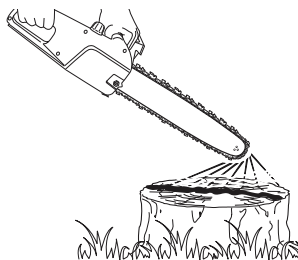

Fig. 18
- > Make sure the guide bar (4) and the saw chain (3) are in place when you check the oil delivery.
- > Start the engine; keep it running at medium power and check if the chain oil is delivered as shown in the figure (Fig. 18).